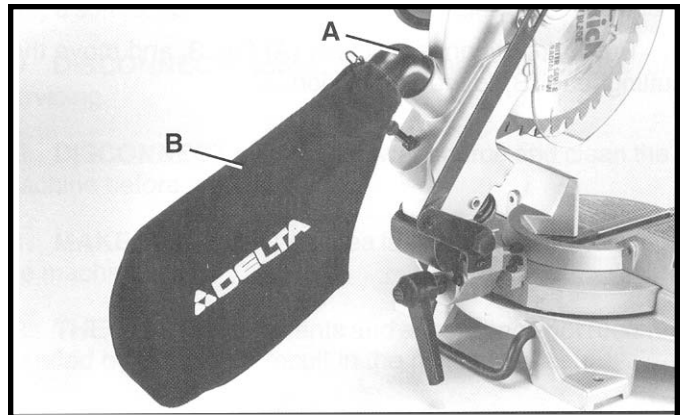

Fig. 7
1. Assemble dust bag (B) Fig. 7, to free end of dust spout (A) as shown.